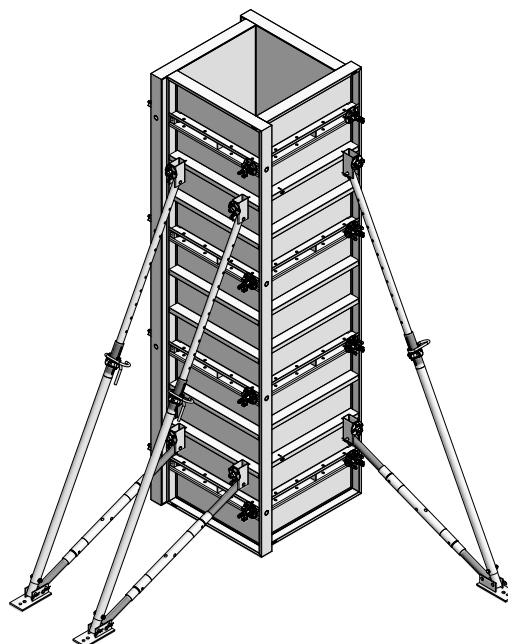

Fig. 42.3
6. Set the second panel unit upright using two EA/AF crane hooks and bolt it to the first panel unit using tensioning screws M350/EA (Fig. 42.3).